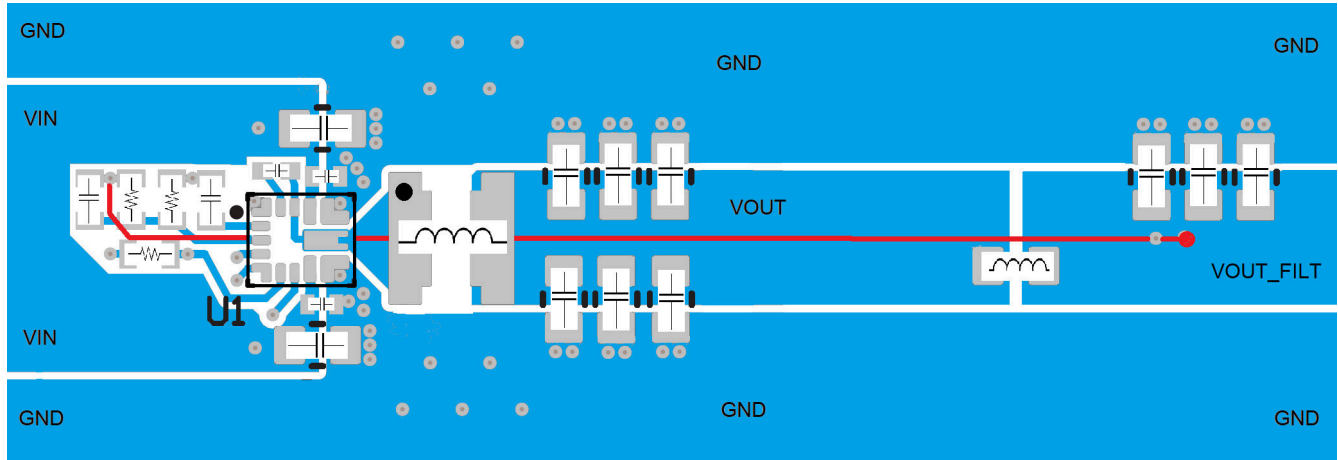

Figure 7-3. Recommended Layout for Design with Second L-C Filter
- Avoid placing the ferrite bead in the keep out region as shown in Figure 7-3
- See the recommended layout implemented on the EVM and shown in the EVM user's guide, TPS62916EVM Evaluation Module, as well as in Figure 7-3.